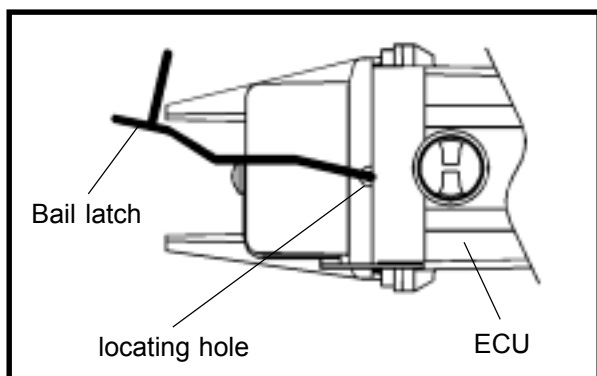

Fig 4.4 BAIL LATCH POSITIONING
5. Fit **New** bail latch provided to new ECU by hooking bail latch ends into locating holes on ECU ensuring that the bail latch is the right way round to clip over the socket see Fig. 4.4.